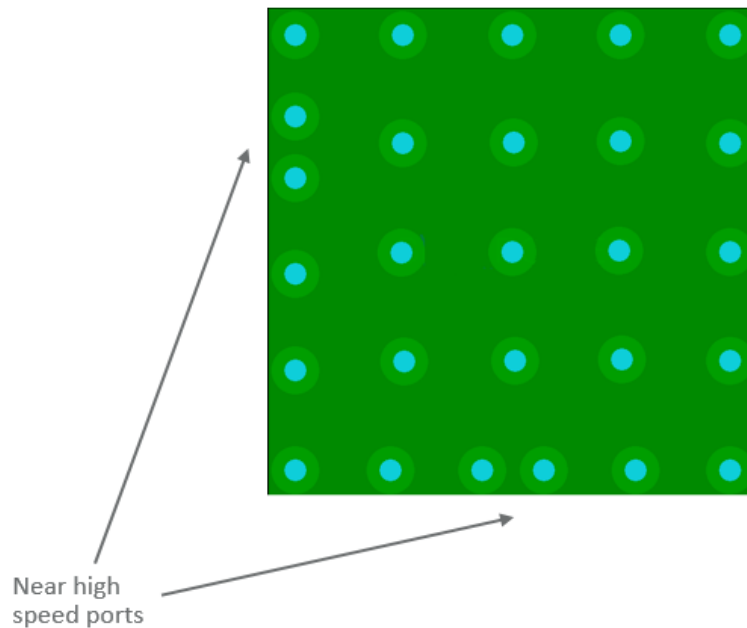

Figure 22. Thermal Vias in the EP of IC
To help with thermal performance, Analog Devices recommends an array of vias in the exposed pad (EP). Additional vias close to the high-speed ports are also recommended (this varies depending on package type and pinout). As many vias as possible should be used in the array to maximize thermal performance. See Figure 22.